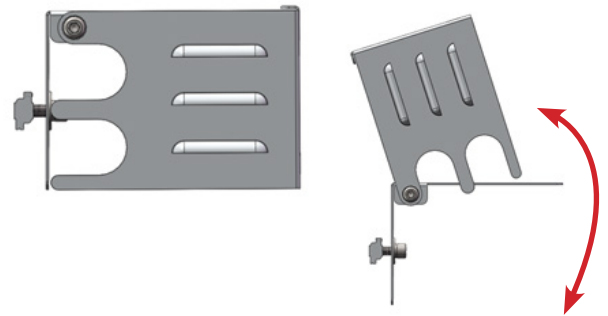

Figure 2
**Note: Allow space above the Rail for the Isolator Shade Cover to open fully (Figure 2).**